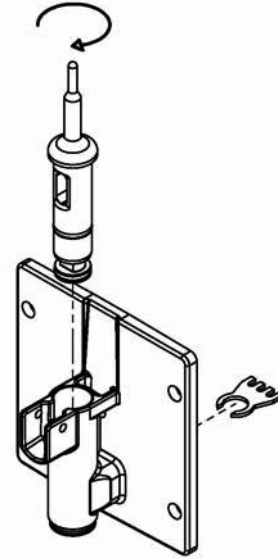

Figure 3-6 Spigot and Ice Breaker Bar Removal
- I. Turn the spigot body until the ice breaker bar can be removed. Remove breaker bar (Refer to Figure 3-6).